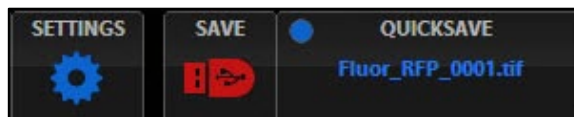

Figure 25 Settings Button
3. Click the Settings button to open the Settings dialog box, and then select the Network tab (Figure 25).